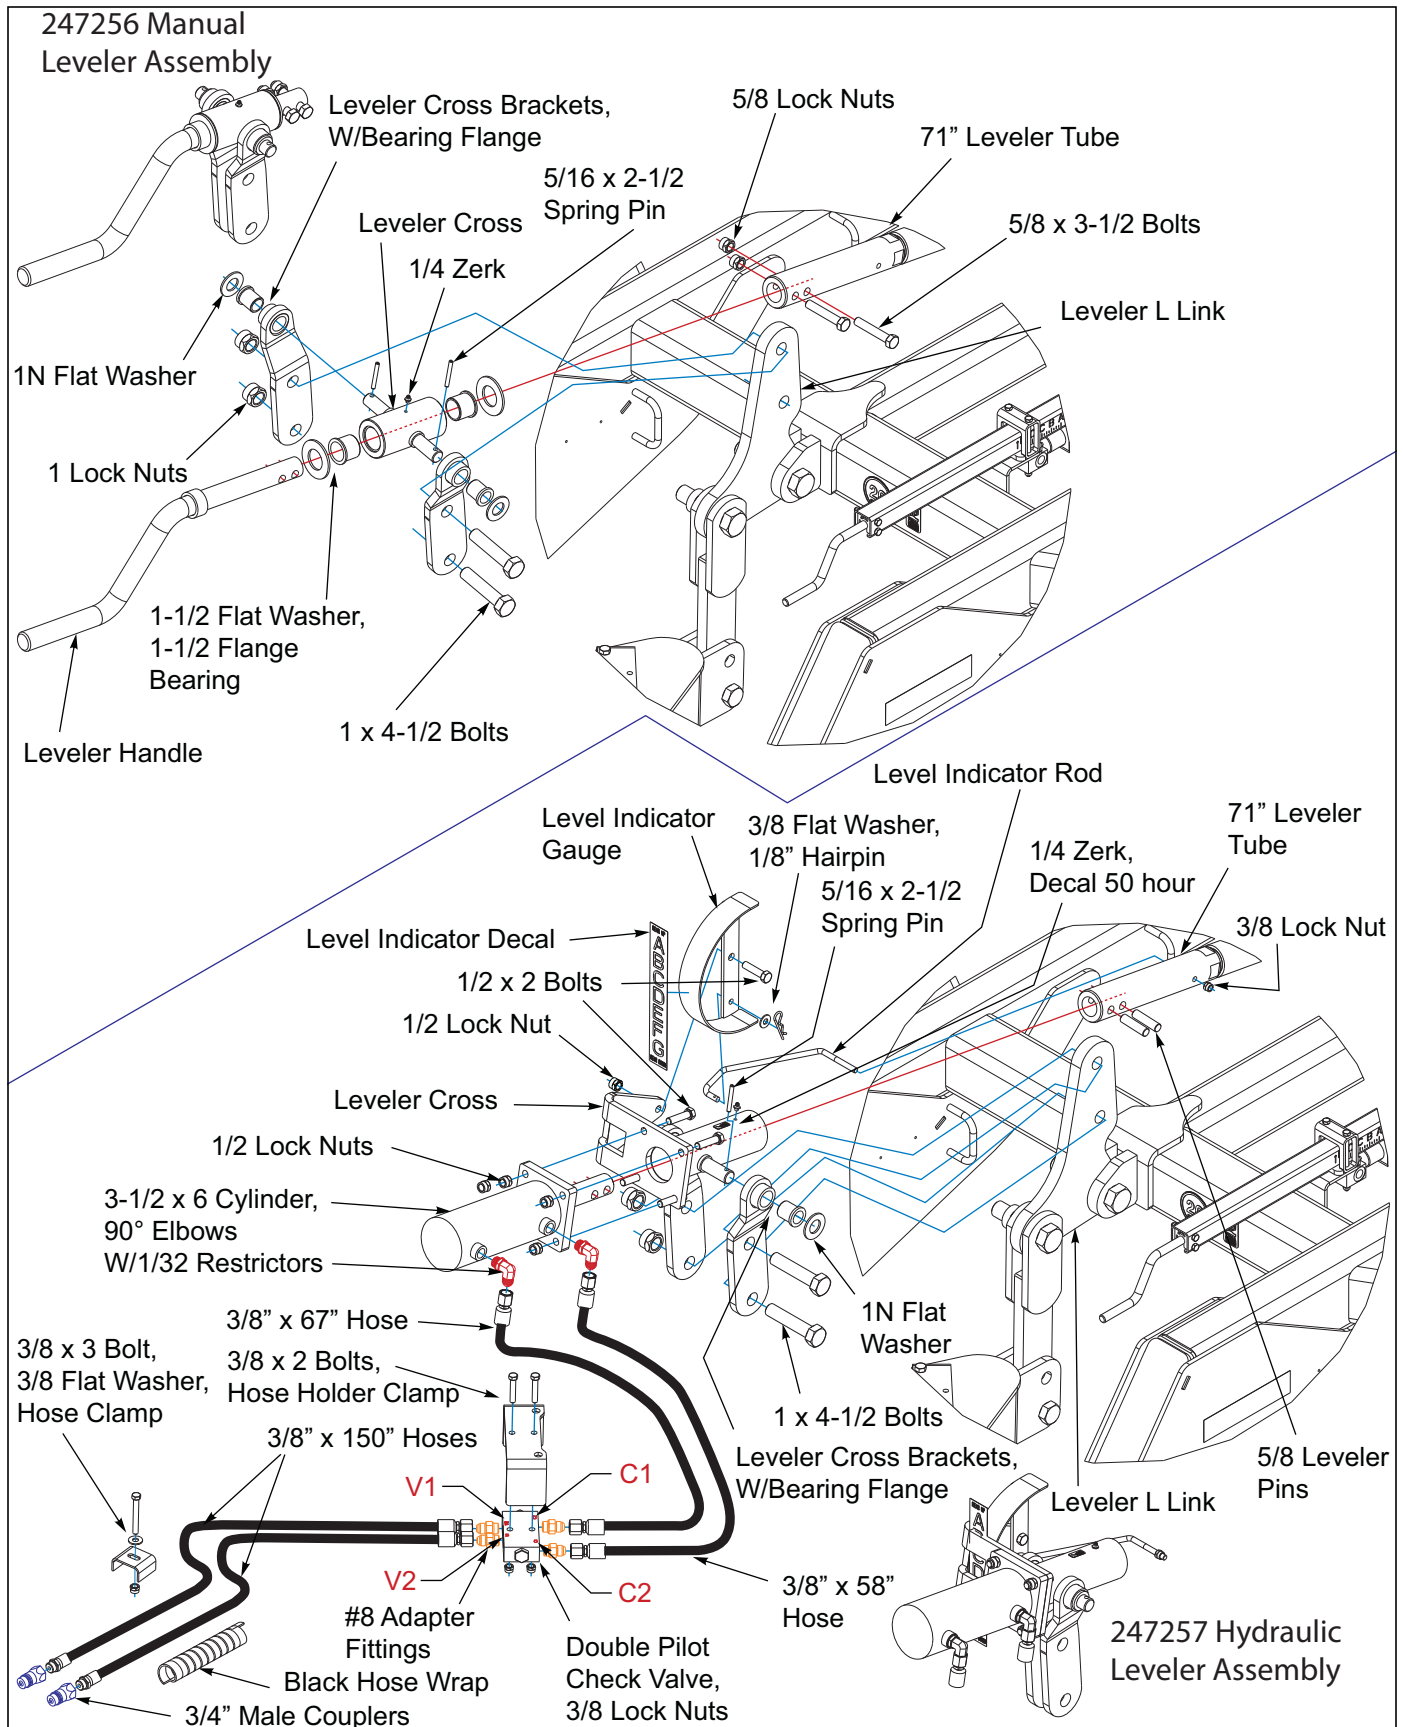

Figure 3-7: Manual/Hydraulic Leveler Installation (After 01-01-2024)
2. Install the manual leveler handle assembly into the front end of the leveler tube and fasten with two 5/8 x 3-1/2 bolts and 5/8 lock nuts See Figure 3-7. Insert a bearing flange in each leveler cross bracket. Slide the brackets over each side of the manual leveler cross and secure with 1N flat washers and 5/16 x 2-1/2 spring pins.
1. Thread a 1-1/2 nut onto the leveler screw assembly See Figure 3-7. Initially leave approximately 3" of threads visible between the 1-1/2 nut and the leveler spring nut. Further adjustment may be required.
3. Slide the leveler cross over the front end of the leveler tube See Figure 3-7.
14. Install (4) #8 adapter fittings into each port of check valve See Figure 3-7.
19. Wrap hydraulic leveler hoses with black hose wrap See Figure 3-7.